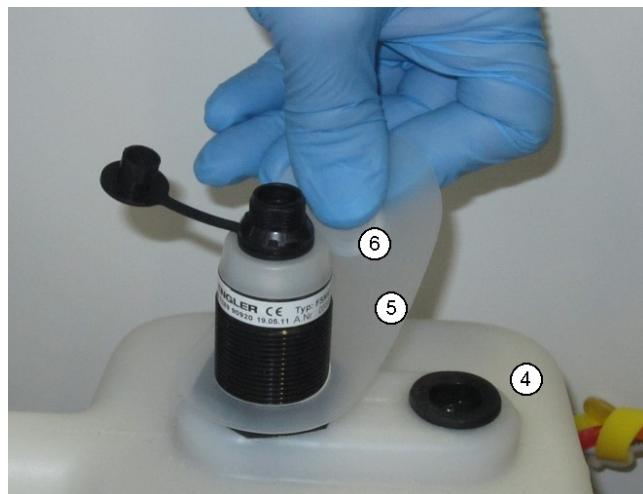

Figure 5–36: Rotation of the rubber strip and opening of the membrane
1. Insert the Liquid Waste Tank into the Liquid Waste Basin (see Figure 5–34).
2. Remove the cap (6) from the membrane (4) by turning the rubber strip (5) and the black cap from the sensor connector. Caps shall be removed only just before plugging the sensor connector and the liquid tubing.